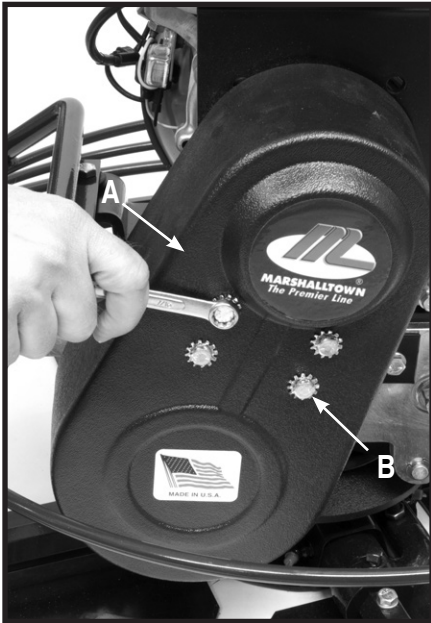

Figure 1
1. Remove belt guard (A) by removing the four belt guard mounting bolts (B). See figure 1.